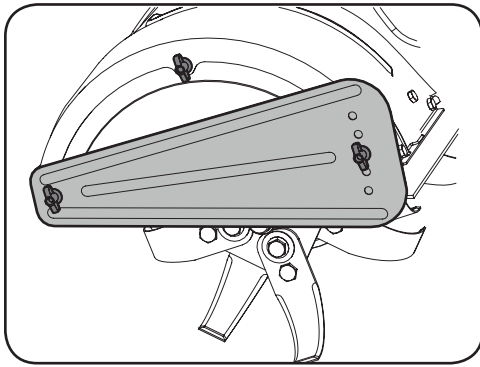

Figure 5-5
1. Remove the three wingnuts from the side shield. See Figure 5-5.